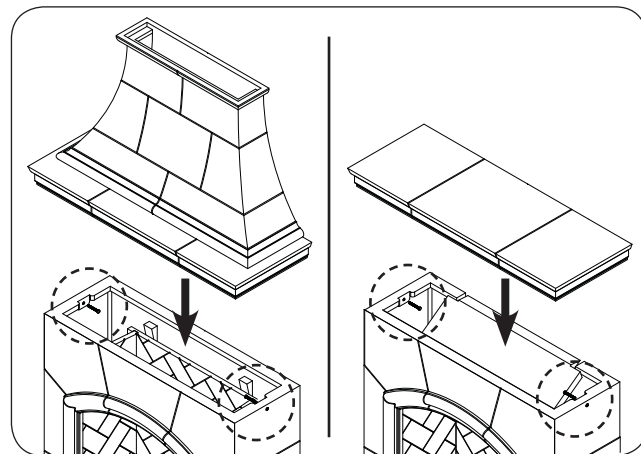
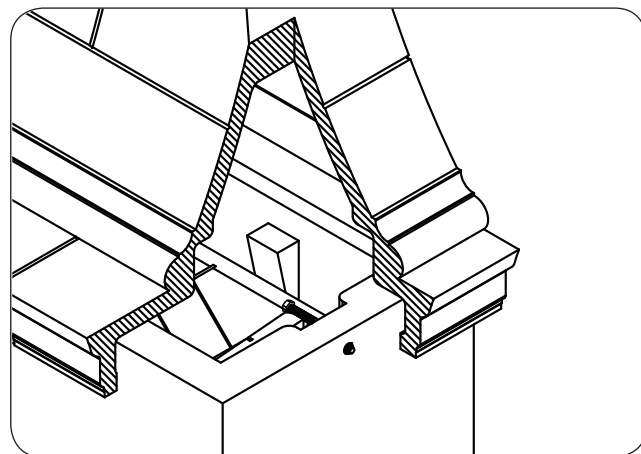

Fig. 21-1 Assemble chimney / mantel
Fig. 21-2 Bolt detail
1. Place the chimney / mantel piece on top of the body piece. See Fig. 21-1.
2. The left and right sides of the body interior each have a pre-installed bolt for securing the chimney / mantel. Reach up through the body and tighten the two bolts using a $\frac{9}{16}$ " open end wrench (or equivalent). See Fig. 21-1 and Fig. 21-2.